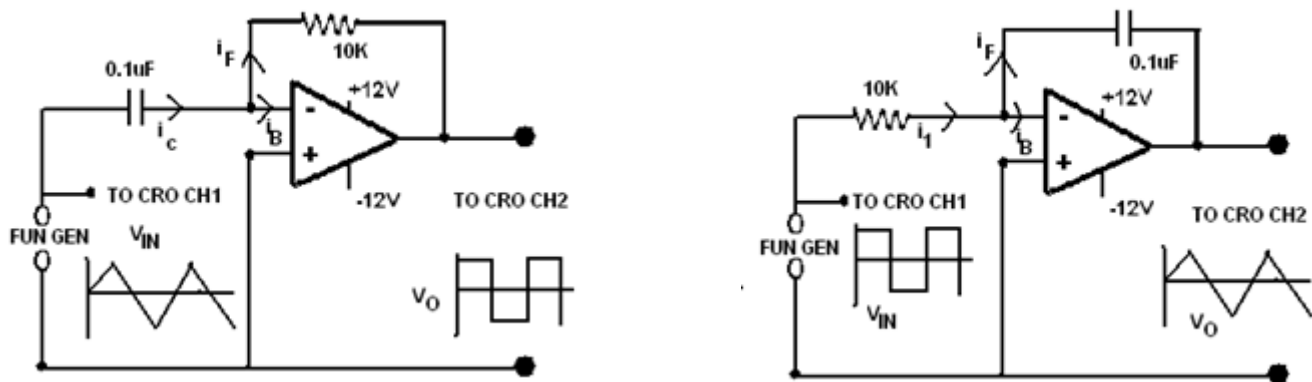

Fig. 6.2 : Circuit Diagram for designing (a) Differentiator and (b) Integrator using Op-Amp.
1. Connect the circuit as shown in the Fig.6.2(a).
1. Connect the circuit as shown in the Fig.6.2(b).